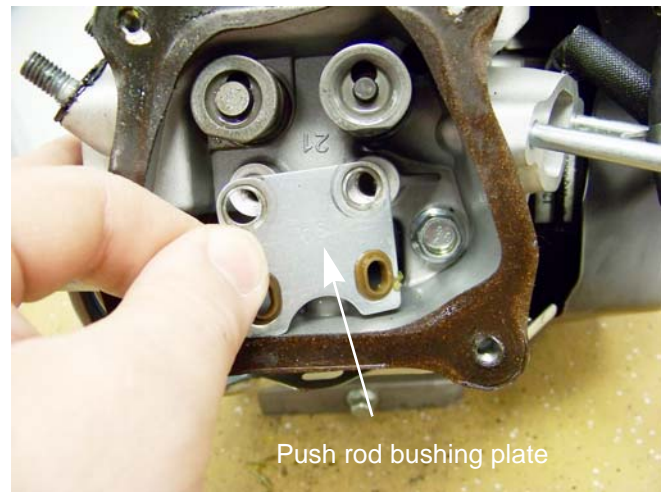

Figure 9.16
8. Lift the push rod bushing plate out of the cylinder head. See Figure 9.16.